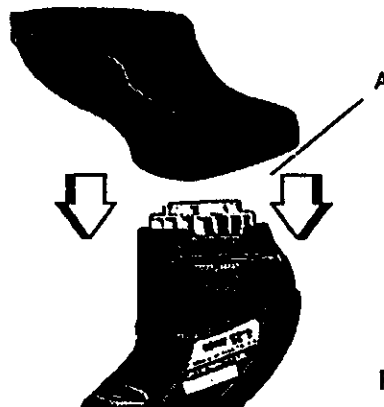

Fig. 1
1. Position the motor housing with string-head carrier (A) facing up (Figure 1).
2. Slide debris shield over motor housing as shown (Figure 1).